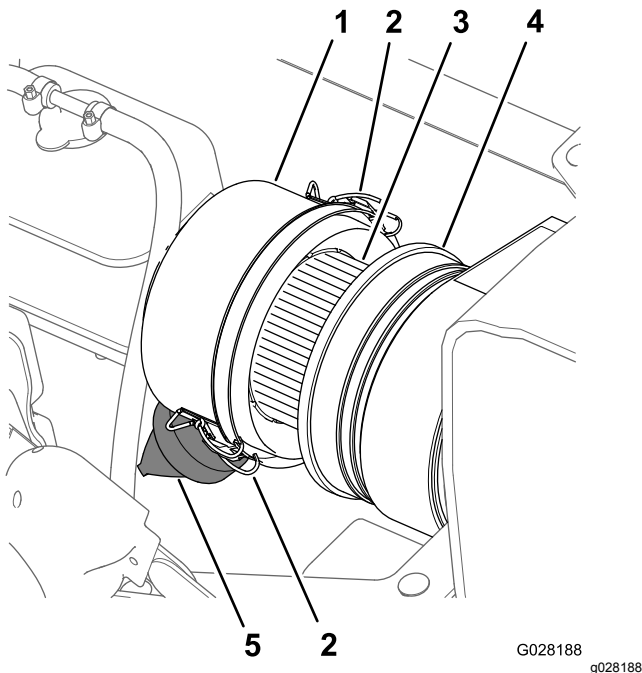
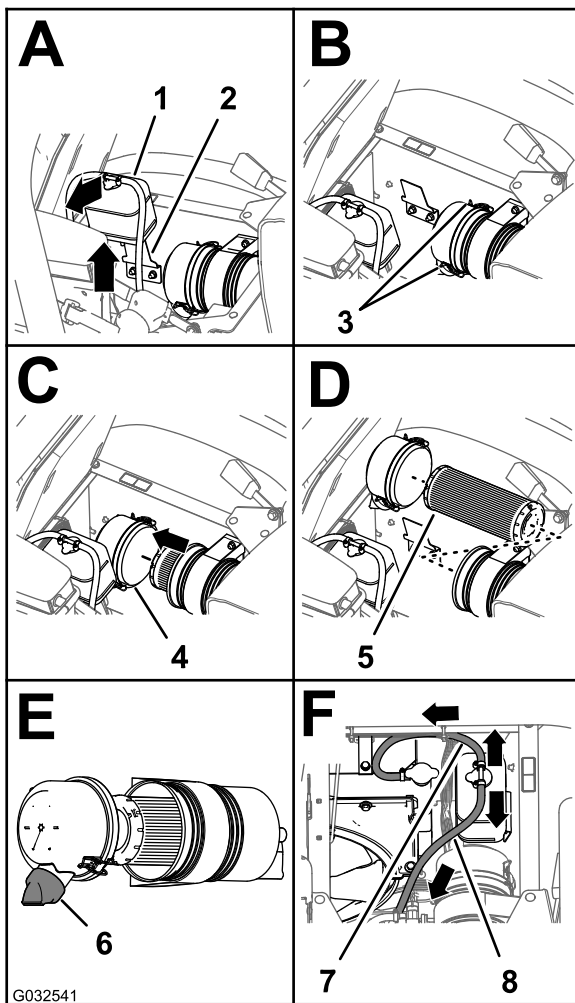

Figure 72
Figure 73
3. Clean the dust cap and air-cleaner body (Figure 72).
4. Check the air-cleaner body for damage that could cause an air leak (Figure 72).
5. Squeeze the dust valve to clear it of dirt, dust, and debris (Figure 72).
7. Check the air-filter element for excessive accumulation of dust, dirt, and debris (Figure 72).
8. Install the dust cap onto the air-cleaner body and secure the cap with the 2 latches (Figure 72).
2. Clean the dust cap and air-cleaner body (Figure 72).
3. Lift the coolant-overflow tank up and off the tank-support bracket (Figure 73).
4. Loosen the 2 latches that secure the dust cap to the air-cleaner body (Figure 73).
6. Clean the inside of the dust cap, air-cleaner body, and dust valve with a damp rag (Figure 72 and Figure 73).
7. Insert the air-filter element into the air-cleaner body (Figure 73).
8. Install the cover onto the air-cleaner body and secure the cover with the 2 latches (Figure 73).
- Note:** Ensure that the dust valve is aligned between the 5 to 7 o'clock position when viewed from the end (Figure 73).
9. Align the coolant-overflow tank to the tank-support bracket and seat the tank firmly (Figure 73).
Important: Ensure that the pressure-relief hose is routed forward and down, and the tank-vent hose is routed rearward as shown in Figure 73.